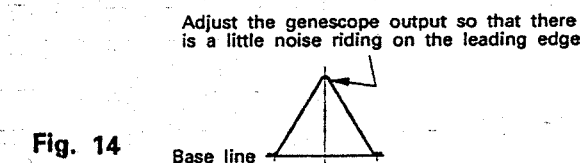

Fig. 14
4. Feed in a weak signal to TP. 2 from the genescope. Adjust T201 for maximum gain and the waveform indicated in Fig. 14. If the center of the waveform cannot be lined up on the marker, adjust the right/left balance.